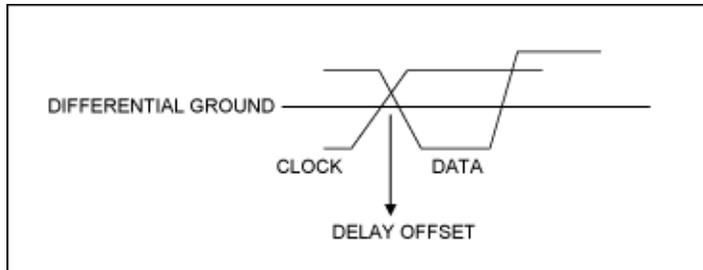

Figure 4. Misalignment/offset between the clock and data.
1. Figure 4 demonstrates that the clock and data are not initially aligned. Ideally, the clock and data should cross at the differential ground. If this is not the case, add delay to the data until it is aligned with the clock. Use the "delay" option on Channel 2 of the Agilent 8133A pulse generator. Call it "delay offset".